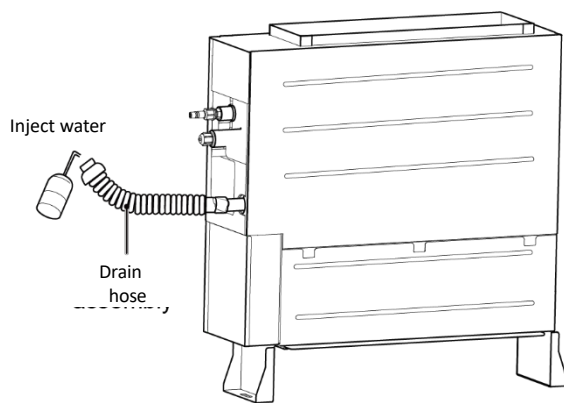

Fig. 4.3.9
- 1) Connect the drain hose to the other drain connection on the water pan and fill with approx. 1 L of water (see Fig. 4.3.9). Remove the drain hose after completing the tests, then replace the water pan plug.